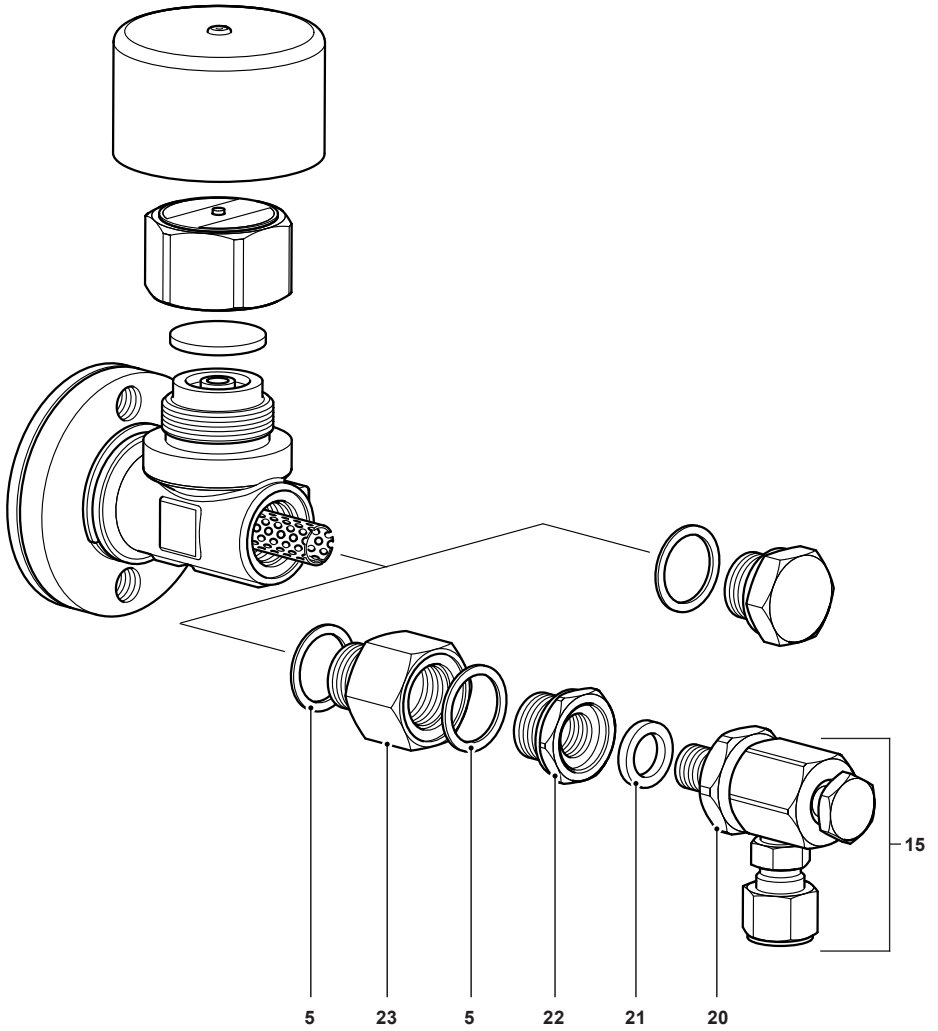

Fig. 6 UTD26LY and UTD26HY version shown
**Note:** The blowdown valve screw on the integral blowdown valve (see Figure 6) should be tightened to 22 - 25 N m (16 - 17 lbf ft).